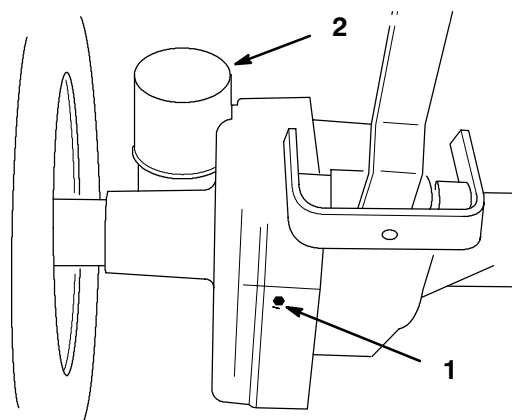

Figure 36
2. Place a pan below the transaxle drain. Open the drain by removing the plug (Fig. 36).